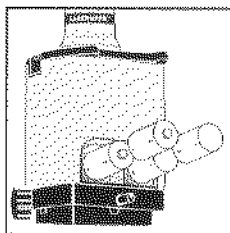

Fig. 7
- 2: Remove the old batteries and replace with four new "C" cell batteries as illustrated (Fig. 7).